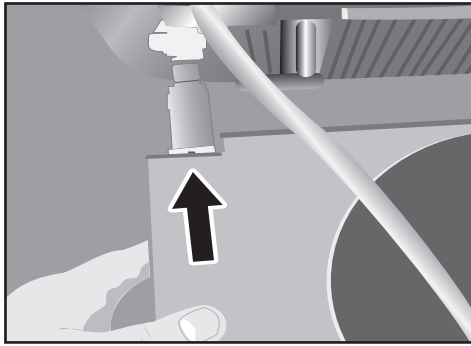

Fig.37
3. Position the external water tank on the support tray, making sure the quick connect on the water tank is aligned with the factory installed quick connect at the back of the cabinet. *See Fig.37*